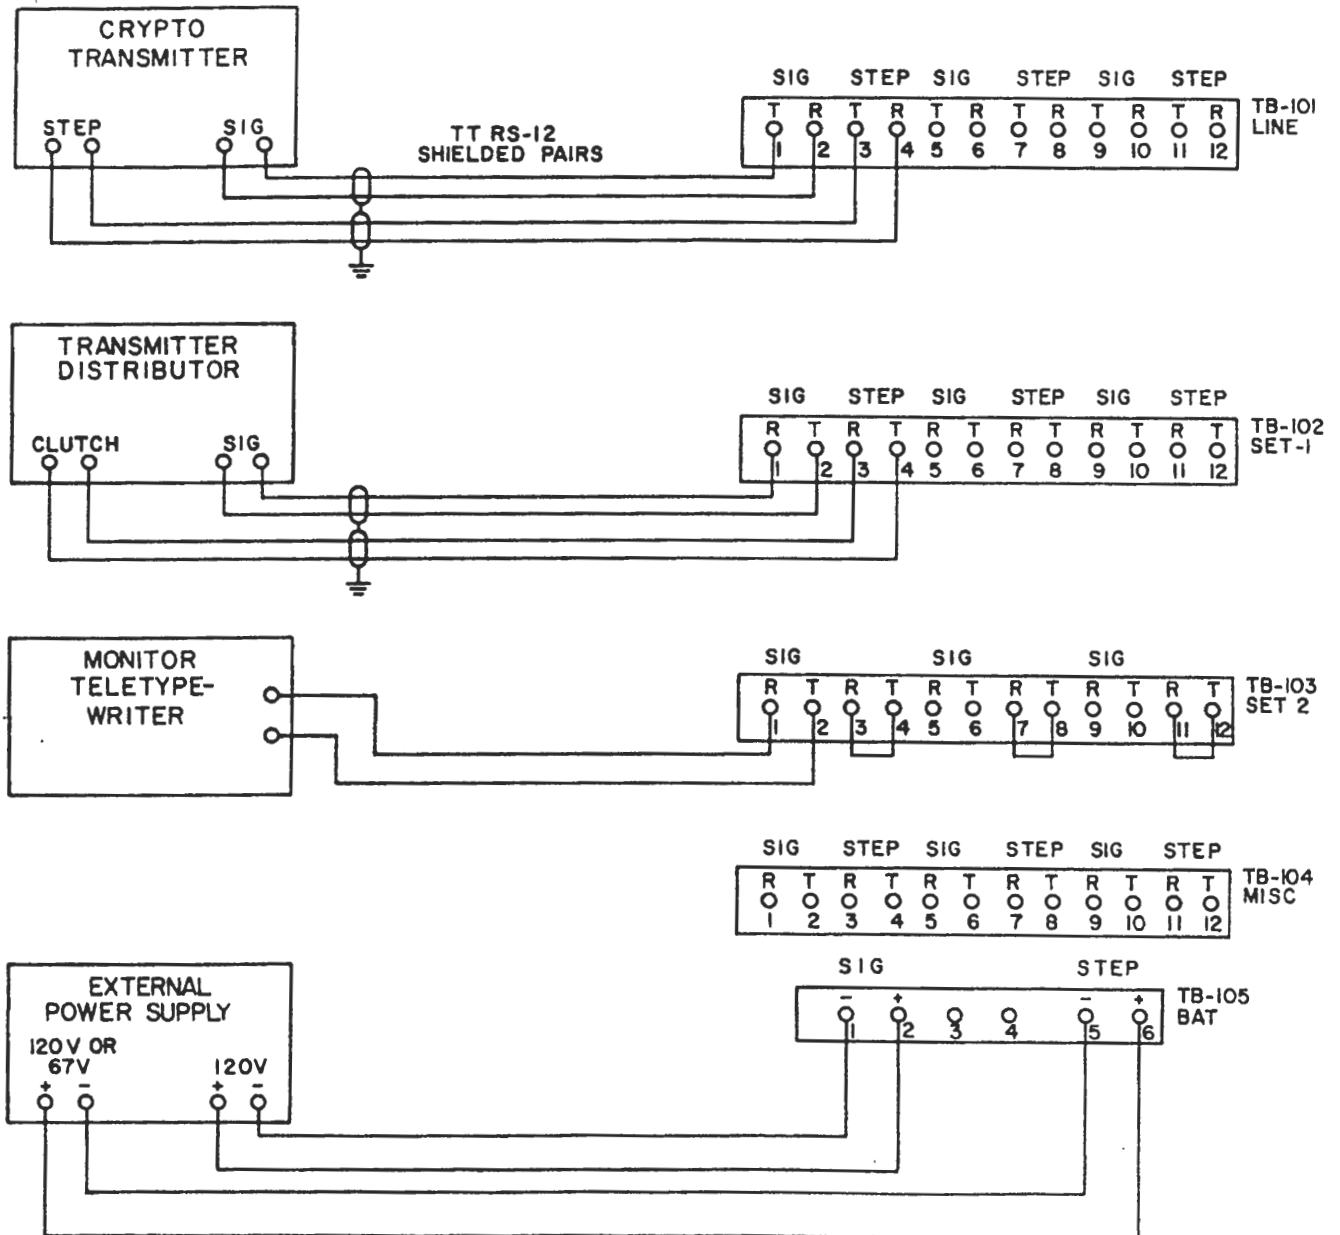

Figure 2-2. Communication Patching Panel SB-2244/UC, Terminal Board Cable Connections
(1) All cabling coming into the unit terminates at applicable terminal blocks TB-101 through TB-105 (see figure 2-2).